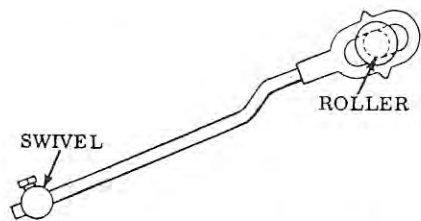
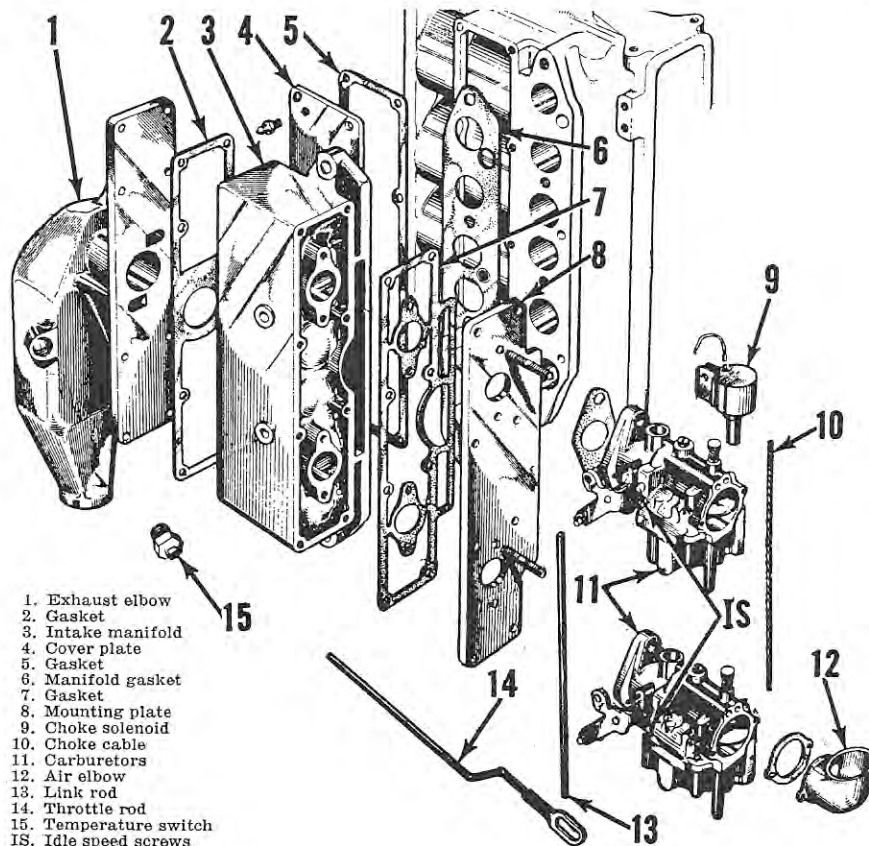

Fig. H4 — With bellcrank fully to rear, loosen swivel clamp and center the roller in throttle rod as shown. Refer to text.
Fig. H5—Exploded view of intake and exhaust manifolds showing component parts.
SPEED CONTROL LINKAGE. To adjust the speed control linkage, back off the idle speed stop screws (21—Fig. H2) until they are free of stops and throttle valves can completely close. Loosen the clamp screw in swivel (Fig. H4), and make sure the throttle bellcrank on starboard side of mounting plate is rotated counter-clockwise as far as it will go. With lower carburetor throttle completely closed and bellcrank fully in counter-clockwise position, tighten the swivel clamp screw with roller (Fig. H4) centered in control slot of throttle rod (14—Fig. H5). Loosen the screw clamping the upper carburetor throttle lever to connecting link (13), make sure both throttle valves are completely closed; then retighten clamping screw. Turn each idle speed stop screw (IS) until they just contact the stop, then turn each screw an additional ¼-turn to establish the approximate idle speed.